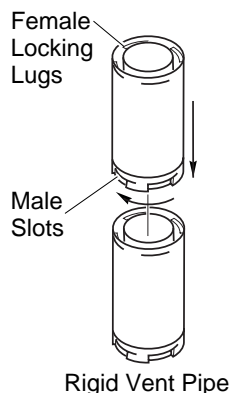

Figure 21 - Vent Pipe Connections
Twist-lock Procedure: The female ends of the pipes and fittings have four locking lugs (indentations). These lugs will slide straight into matching slots on the male ends of adjacent pipes and fittings. (All connections must be sealed with high temperature silicone sealant as specified in the second warning statement on page 10.) Push the pipe sections together and twist one section clockwise approximately one-quarter turn until the sections are fully locked. See Figure 21, page 12. **Note:** Horizontal runs of vent must be supported every three feet. Use wall straps for this purpose.
2. Assemble the desired lengths of pipe and elbows necessary to reach from the burner system flue up through the firestop. All connections must be sealed with high temperature silicone sealant as specified in the second warning statement on page 10. Be sure all pipe and elbow connections are fully twist-locked (see Figure 21, page 12).